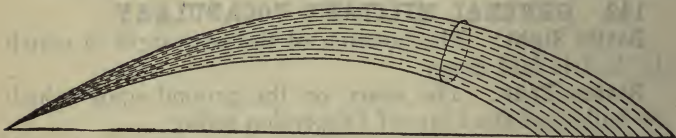

FIG. 24a.—Cone of Dispersion or Cone of Fire.
**Cone of Dispersion** (Cone of Fire), (Fig. 24a): A term applied to the figure formed in space by the trajectories, considered together, of a series of shots fired by a body of soldiers at a common objective and with the same rear sight setting.